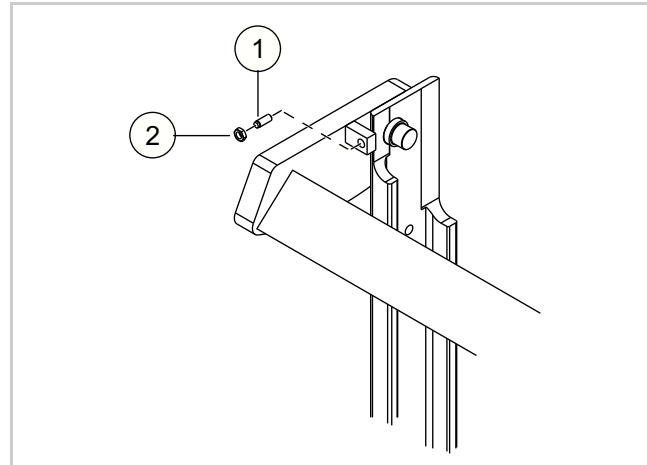

Fig. 32 (30009)
5. At the top of the mast, remove the jam nut (2, Figure 32).